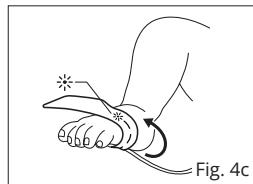

Fig. 4c
- Refer to **Fig. 4c**. Wrap the adhesive/foam wrap around the lateral aspect of the foot (or hand) and ensure that the emitter window (✳) aligns directly opposite of the detector. Be careful to maintain proper alignment of the detector and emitter windows while attaching adhesive/foam wrap to secure the sensor.